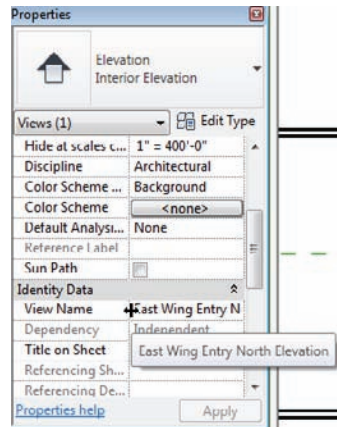

FIGURE 3.83 Changing the View Name setting to East Wing Entry North Elevation
2. In the Properties dialog, notice that you have a wealth of information about that view. You have a multitude of options as well. The option you are going to change is View Name. Find View Name under the Identity Data heading, and change it to East Wing Entry North Elevation, as shown in Figure 3.83.